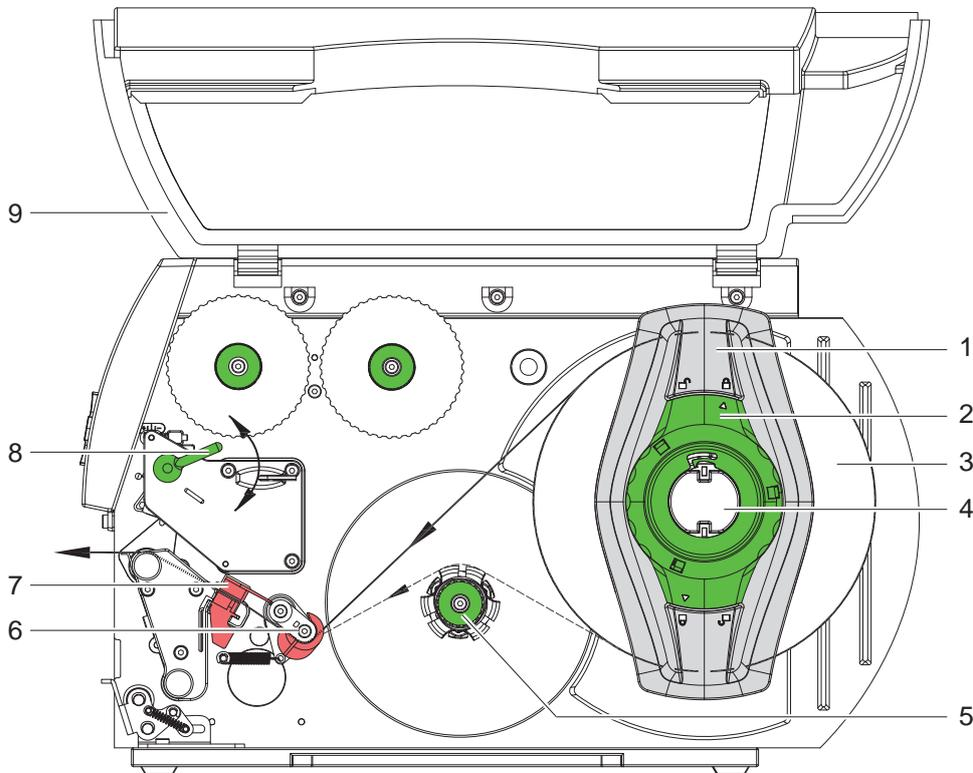

Fig. 7 Loading labels from roll
- ▶ Turn lever (Fig. 7, Item 8) clockwise to lock the printhead.